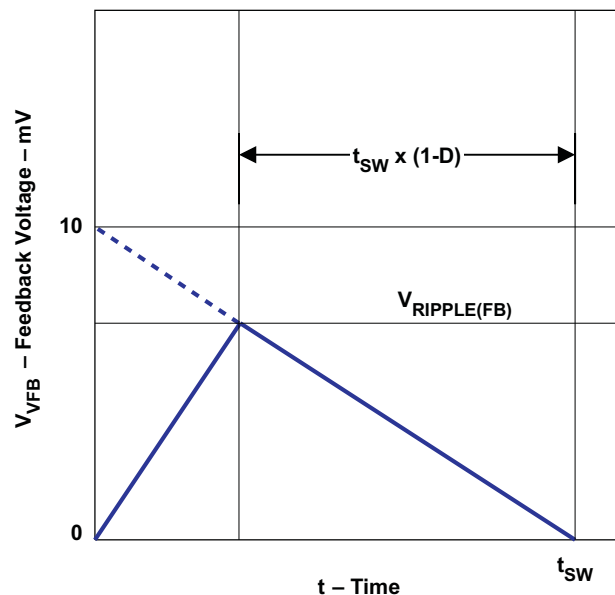

Figure 15. Ripple Voltage Down Slope
- the output ripple down slope rate is 10 mV/ t_{SW} in terms of VFB terminal voltage as shown in Figure 15